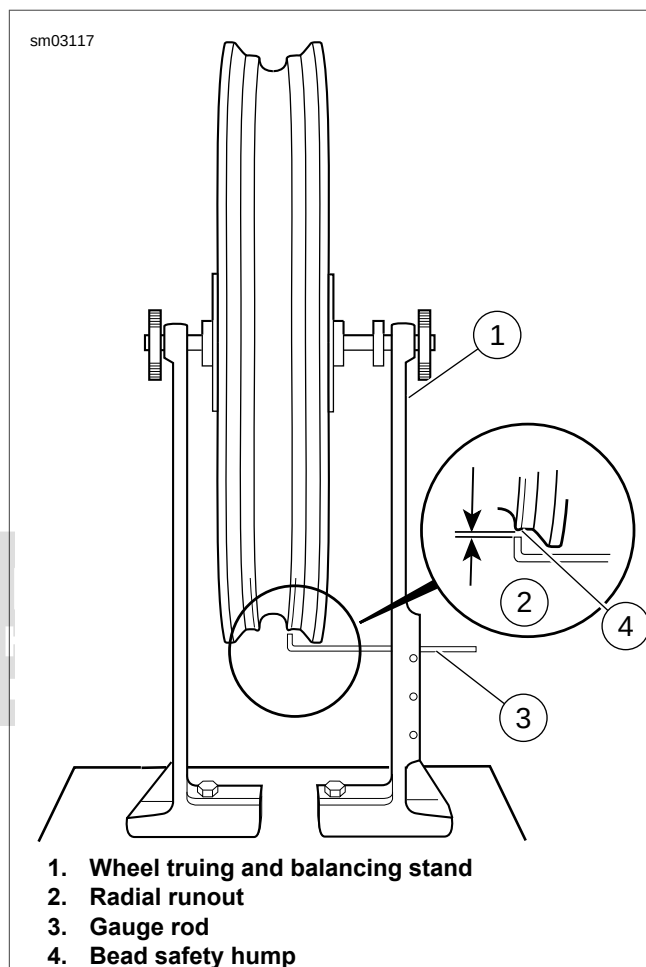

Figure 2-46. Checking Radial Runout
- See Figure 2-46. With the wheel mounted in WHEEL TRUING STAND (Part No. HD-99500-80), adjust the truing stand gauge (3) near to the rim's tire bead safety hump (4). If using a dial indicator, place the tip on the safety bead hump.